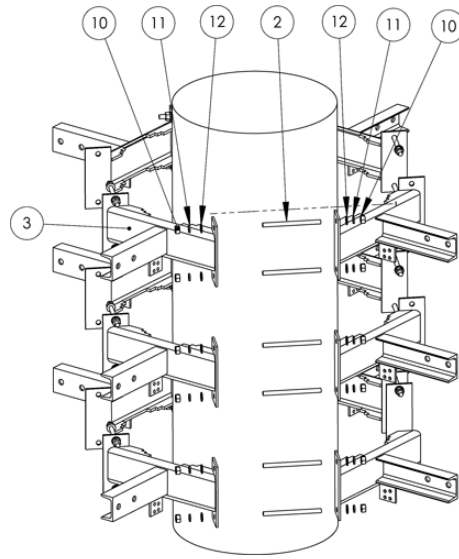

Figure C-23: Installing 4 Sector Clamp for Monopole
- 4 Use the remaining clamp sectors, bolts, washers, spring washers and nuts to install the clamps in the positions marked on the monopole as shown in Figure C-23.